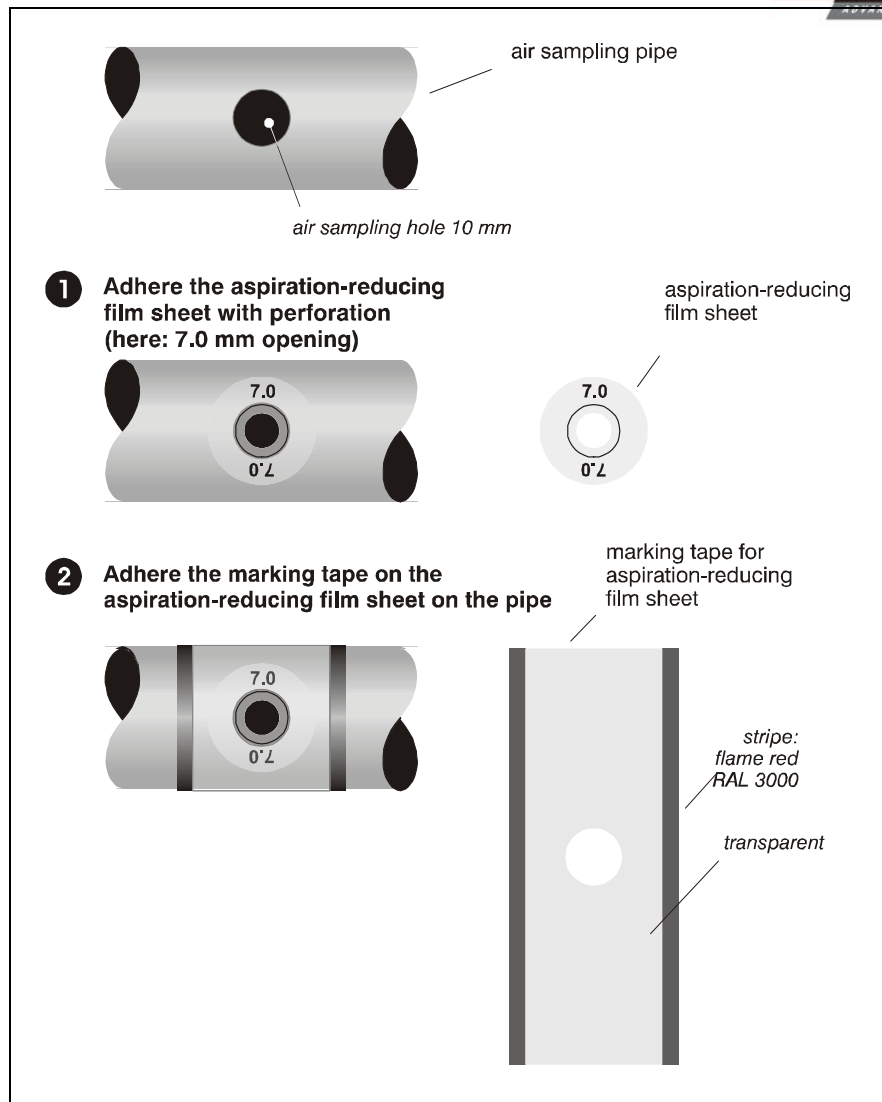

Fig. 6.3 Aspiration-reducing film sheet
5. Place the aspiration-reducing film sheet on the hole (refer to Fig. 6.3 **1**).
6. Prevent the film sheet from falling off by sticking marking tape on the film sheet (refer to Fig. 6.3 **2**).